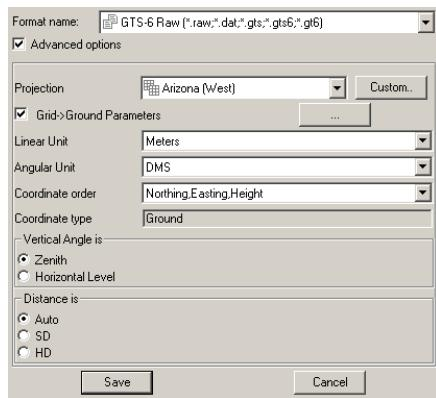

Figure 4-65. Parameters for Created TS Raw Data File
5. When saving a file as a TS raw data file, it is possible to set the desired projection, linear units, angular units, coordinate type and coordinate order, mode of vertical angle, and type of distance (Figure 4-65 on page 4-49).